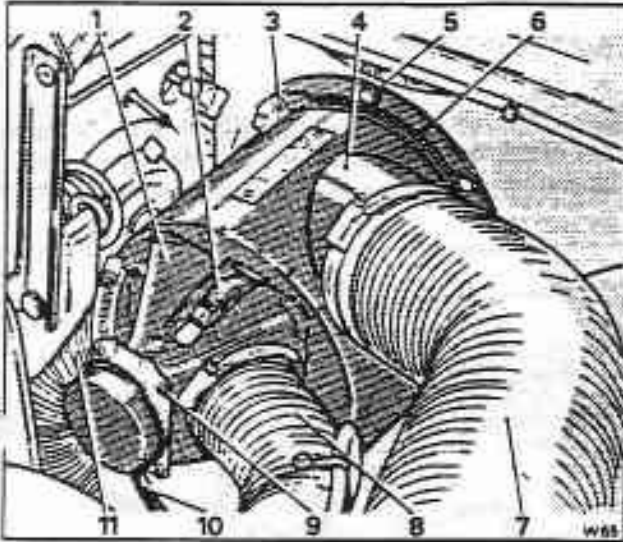

Fig. K6-2 Air filter and blending valve housings
4. Release the two clips situated on the top and bottom of the blending valve housing (see fig. K6-2).
6. From inside the engine compartment unscrew the seven setscrews situated around the air cleaner retaining ring (see fig. K6-2). Collect the washers and retaining ring. From under the wing, withdraw the housing.
The hot air pick-up is mounted around the forward section of 'A' bank exhaust manifold. It is connected to the air cleaner/silencer by convoluted trunking (see fig. K6-2).